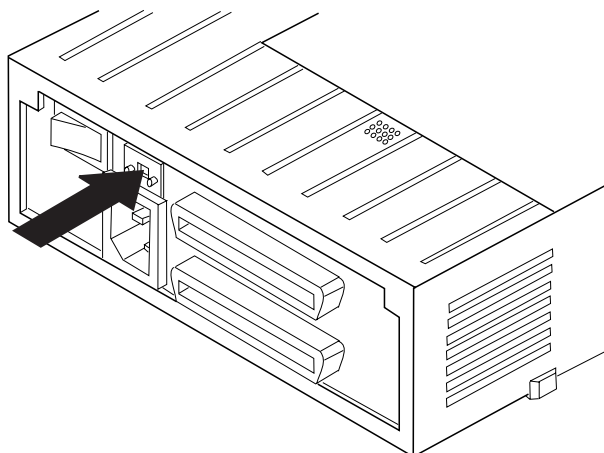

Figure 2. ID Setting on Optical Disk Drive
- Record the ID switch as shown in Figure 2 on page 7.